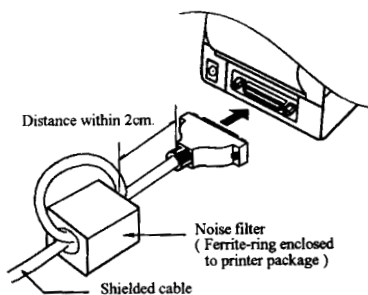

Figure A-1. Noise Filter Installation.
2. Bend the cable and make its shape into a ring as shown in Figure A-1.
3. Open the noise filter and clamp it onto the ring. At the same time, reserve the 2 cm long cable between the filter and the D-type plug which will be connected to the printer interface. See Figure A-1 for details.